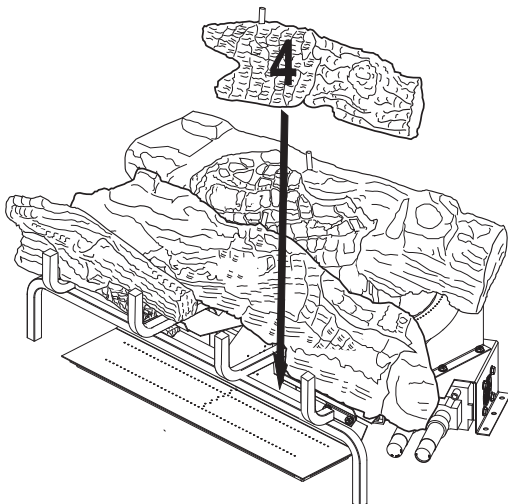

Figure 24 - Installing Log # 4
4. Place the front right log (#4) onto the base assembly between the middle log (#2) and the grate. The back of the front right log (#4) will rest against the front of the middle log (#2). The notch in the end of the front right log (#4) will fit around the grate bar. See **Figure 24, Page 18**.